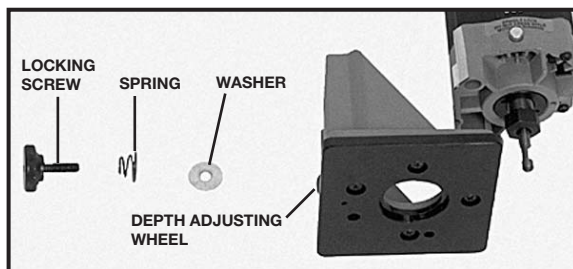

Fig. 3
Model 7310 Trimmer is completely assembled at the factory. The base is assembled to, or removed from Model 7301 Motor with base locking screw (Fig. 3).
1. Loosen base locking screw (Fig. 3) approximately one-quarter turn.
2. Turn depth adjusting wheel (Fig. 3) clockwise, looking at top of wheel, to raise cutter reducing depth of cut or counterclockwise to lower cutter for increasing depth of cut.